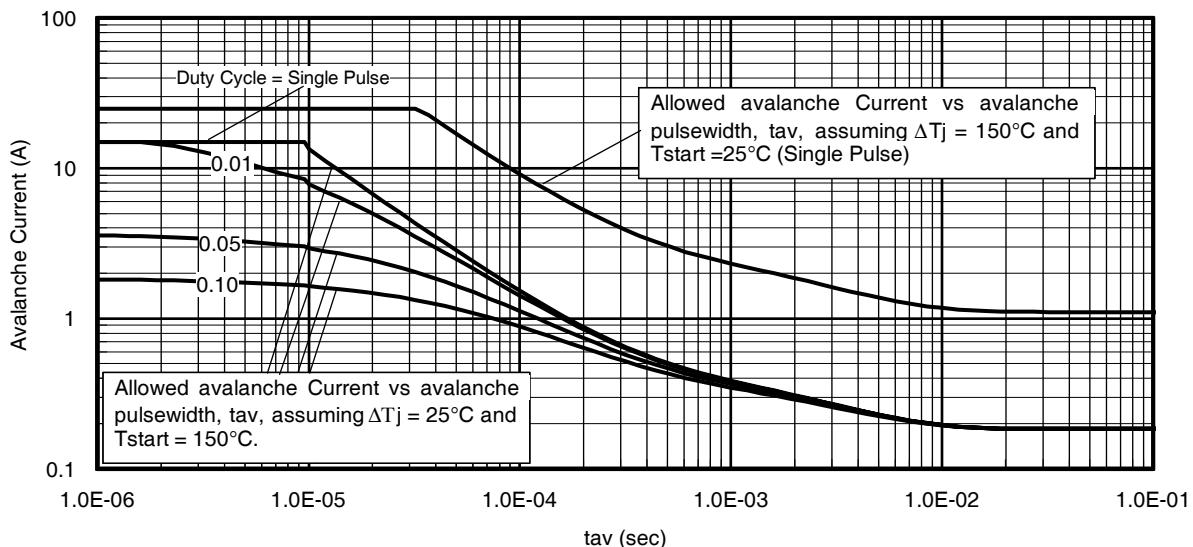

Fig 14. Typical Avalanche Current Vs. Pulsewidth
- ① Repetitive rating; pulse width limited by max. junction temperature.
② Starting  $T_J = 25^\circ\text{C}, L = 1.00\text{mH}, R_G = 25\Omega, I_{\text{AS}} = 15\text{A}$ .
③ Pulse width  $\leq 400\mu\text{s}$ ; duty cycle  $\leq 2\%$ .
④  $R_\theta$  is measured at  $T_J$  of approximately  $90^\circ\text{C}$ .
⑤ Limited by  $T_{j\text{max}}$ . See Figs. 14, 15, 17a, 17b for repetitive avalanche information
Notes on Repetitive Avalanche Curves , Figures 14, 15:
7.  $\Delta T$  = Allowable rise in junction temperature, not to exceed  $T_{jmax}$  (assumed as  $25^\circ\text{C}$  in Figure 14, 15).